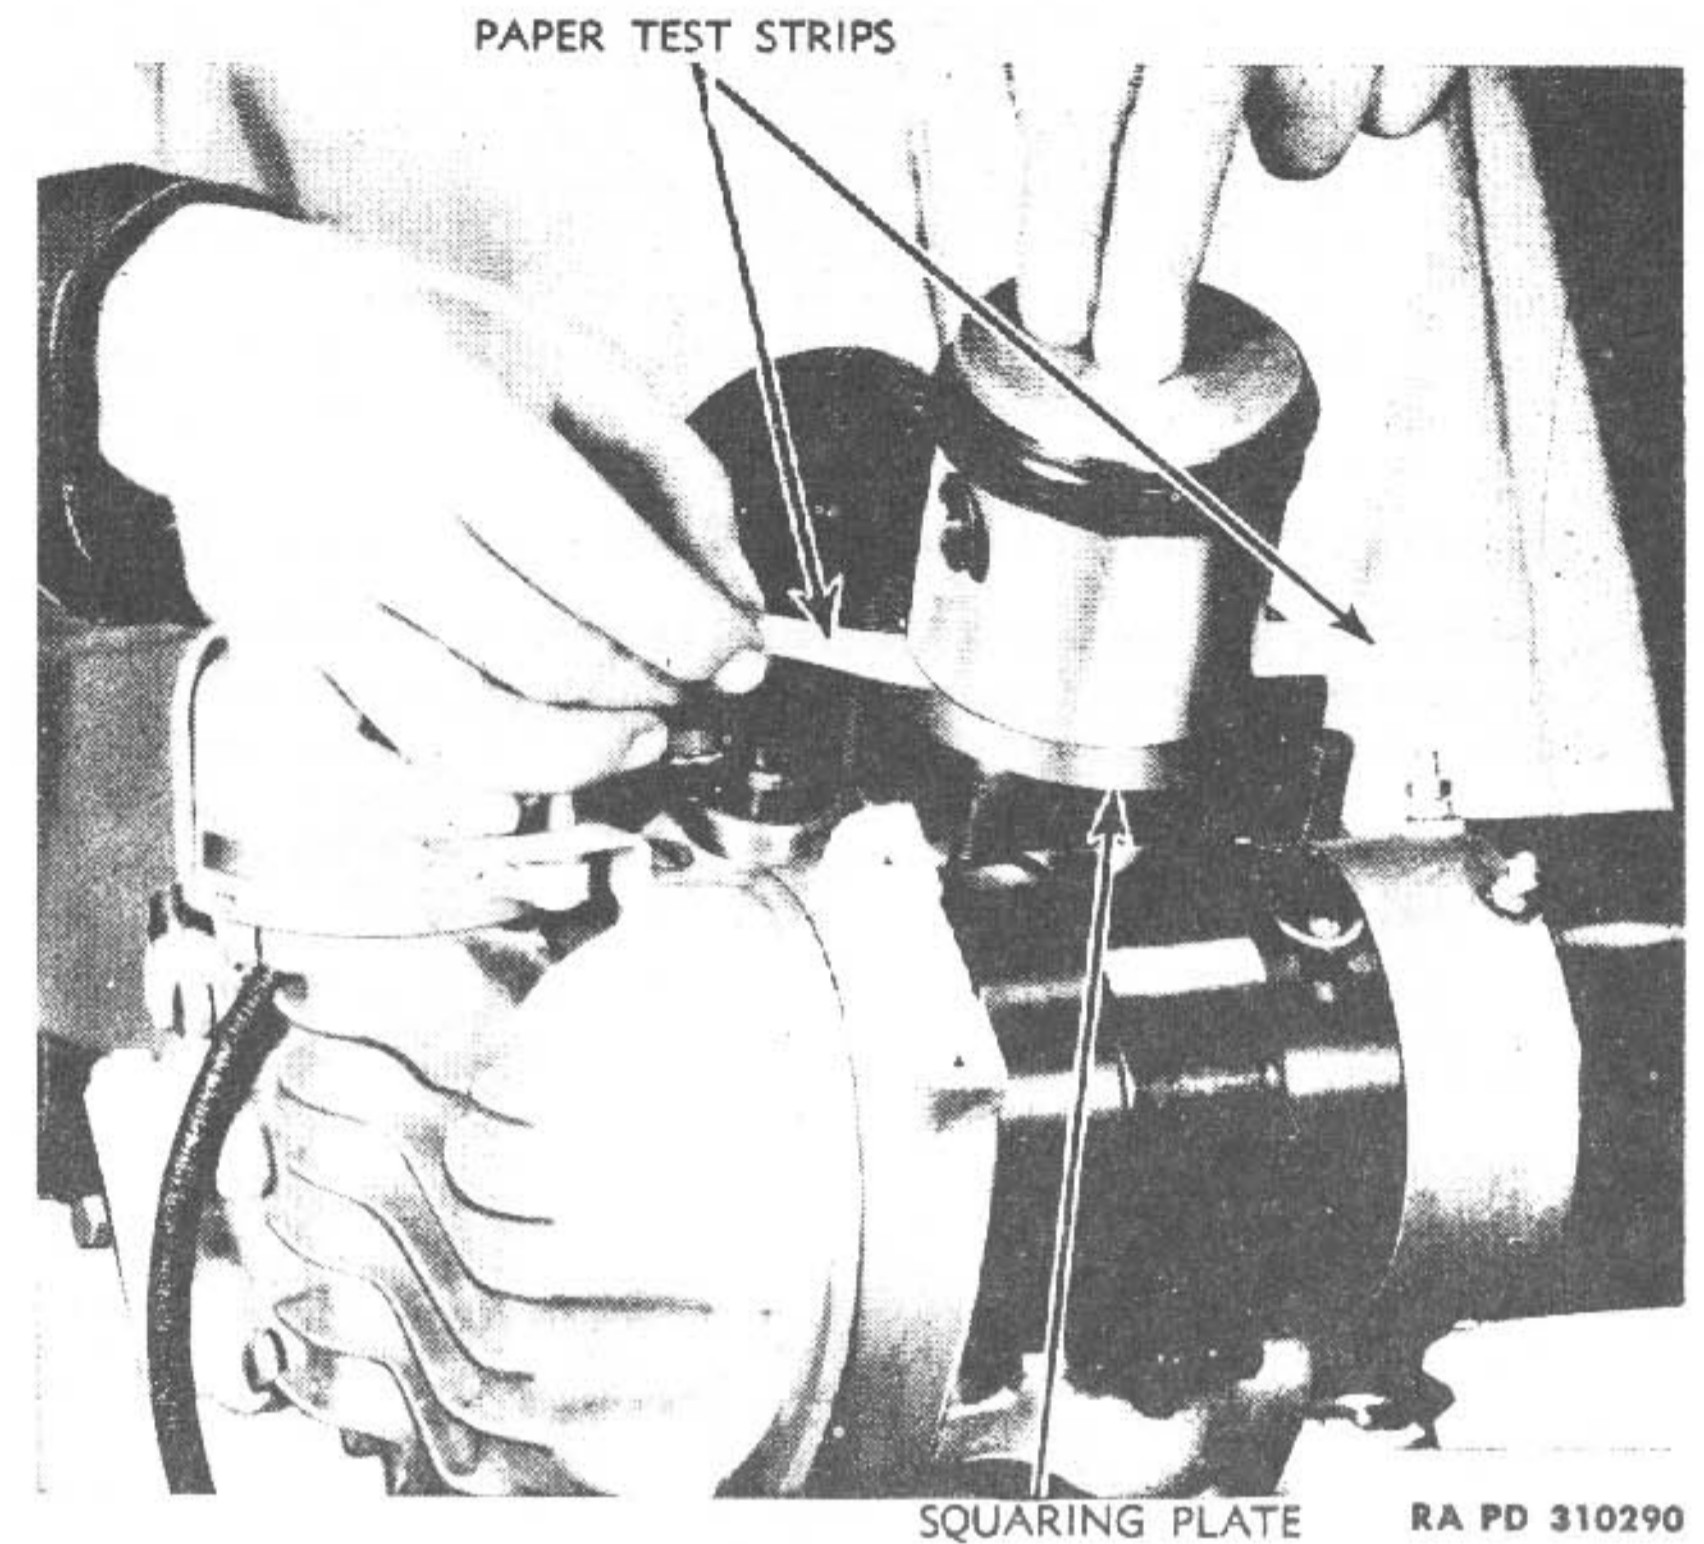

Figure 20—Checking Connecting Rod Alinement with Squaring Plate (41-P-1550-25)
cylinder bore and the result is excessive noise and rapid wear. Connecting rod alignment is determined by seating of piston skirt end on a special thickness surface plate (piston squaring plate) placed on crankcase cylinder base face (fig. 20). The flywheel crankpin positions, forward and backward, in relation to the piston position on the squaring plate influence the seating of piston on the squaring plate and indicate whether or not the connecting rod is in alignment. Flywheels must be rotated forward and backward to change the crankpin positions when checking piston and connecting rod alignment.
d. Checking Alignment with Tissue Paper (fig. 20). Insert narrow strips of thin tissue paper (not wider than $\frac{1}{2}$ inch and of equal thickness) underneath piston, one piece of paper on each side and directly below (in line with) the piston pin. Press piston down lightly with finger tips resting on center of piston head. With piston located on squaring plate in one crankpin position, first pull one